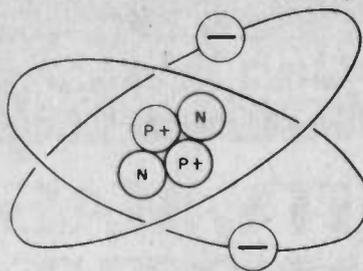

Fig. 2. Charge of each electron balances that of a proton. Other particles affect atomic mass but can be ignored in study of electronics.
**From Minus to Plus.** With the discovery of the electron, it was still over a dozen years into the 20th century before a graphic conception of the atom evolved. Since the atom is electrically neutral and electrons are negatively charged, the existence of positively charged particles was a necessity, and the existence of a *proton* was postulated. Eventually the nuclear model of the atom was evolved. Each atom was conceived to resemble a solar system in miniature. The nucleus—positively charged—is surrounded by a number of electrons revolving around it; the charges balance and the atom is electrically neutral (Fig. 2). Further research in the 20th century has gone on to reveal more elementary particles than you can shake a stick at: neutrons, positrons, neutrinos, mesons, and more. The number continues to grow and yet the ultimate nature of matter remains a riddle. But, in a discussion of basic electricity, only the electron and proton need concern us.